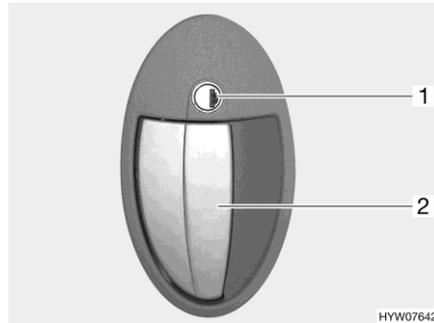

Fig. 33 Door lock (conversion door, outside)
- Insert the key in the locking cylinder (Fig. 33,1) and turn it in a clockwise direction until the door lock is unlatched.
- Pull on the door handle (Fig. 33,2). The door is open.
- Insert the key in the locking cylinder (Fig. 33,1) and turn it in an anti-clockwise direction until the door lock is engaged.